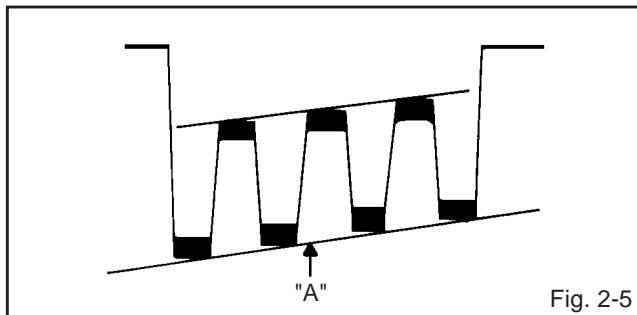

Fig. 2-5
(Refer to Fig. 2-5)
**(Refer to Fig. 2-5)**